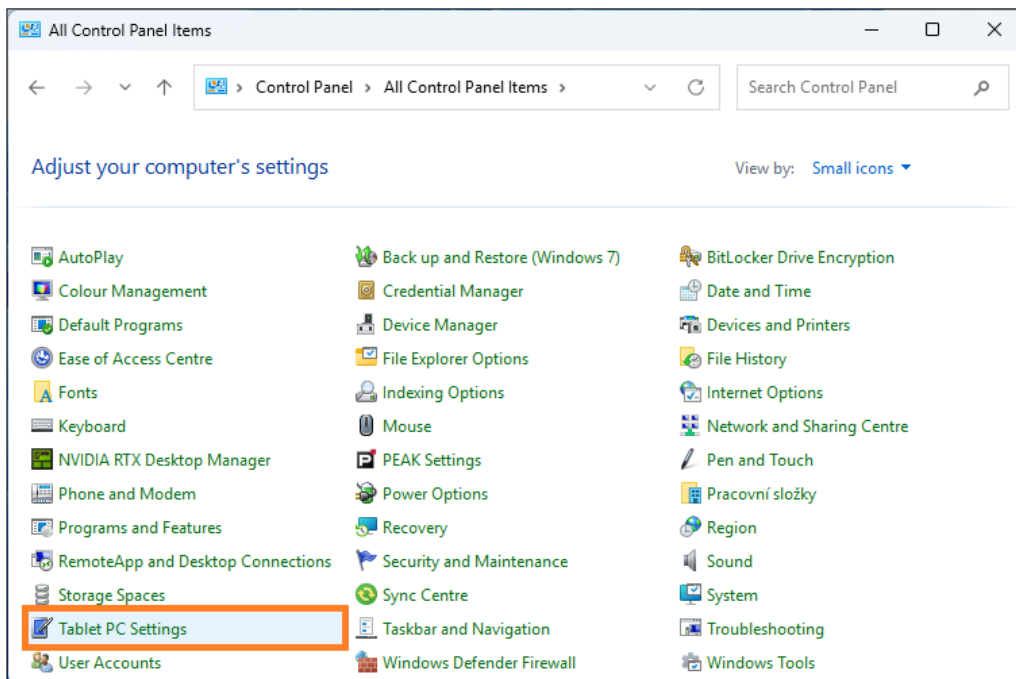

Figure 30: "Control Panel" dialogue – Tablet PC Settings.
- 3 Open *“Tablet PC Settings”* (see Fig. 30),